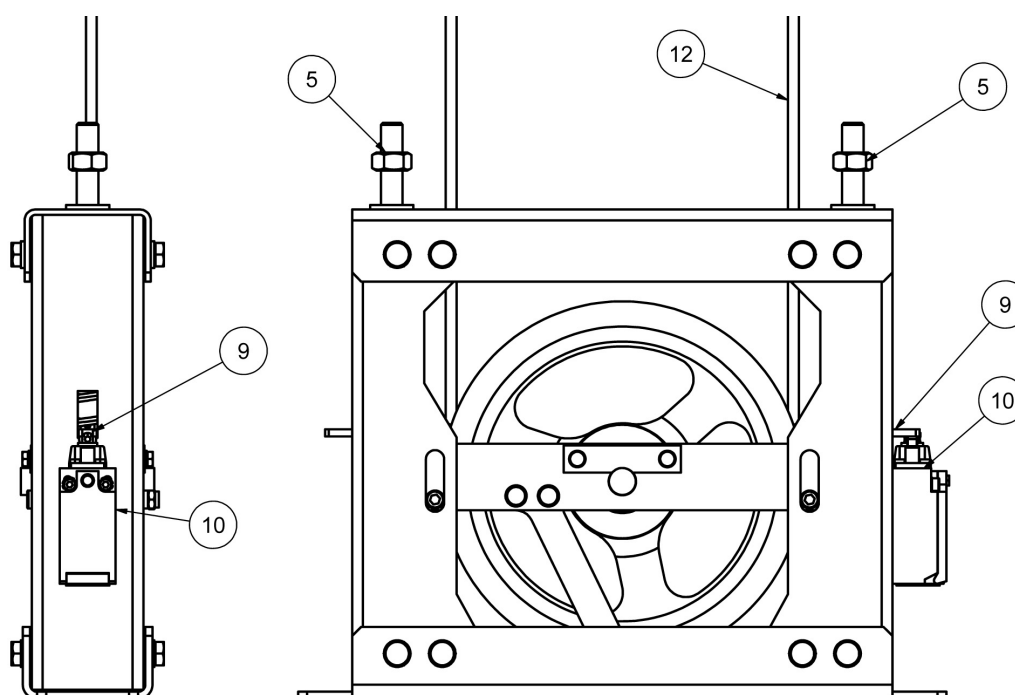

Figure 20: Rope without the correct tension
If, after completely unthreading the nuts, it is detected that the de-tensing contact actuator (9) is in contact or about to contact the de-tensing contact (10) (See Figure 20), release the rope (13) from the cable-clips (14), and pre-tighten the free end of the rope again .